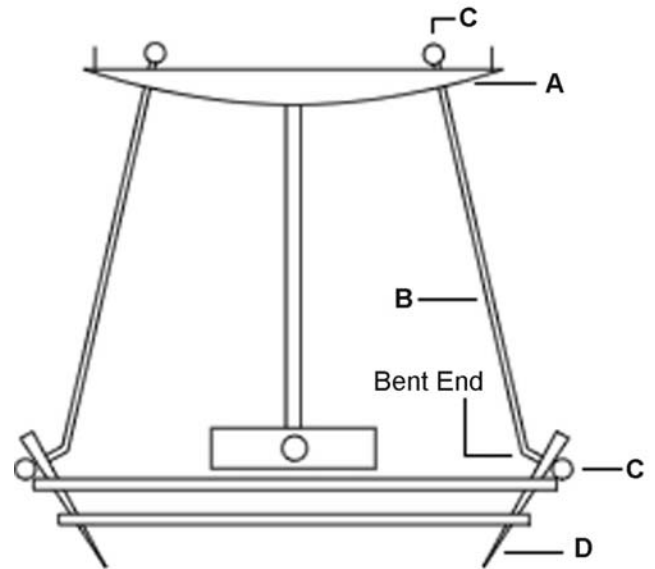

Figure 1
2. Remove Knurled Ball/Nut (C) from one end of each Support Rod (B).
3. Insert Support Rods (B) through outermost holes in Canopy (A) and reattach Knurled Balls/Nuts (C). For models 12-4422, 12-4423, and 12-4442 the straight end of the rods should be in the canopy (*Figure 1*).